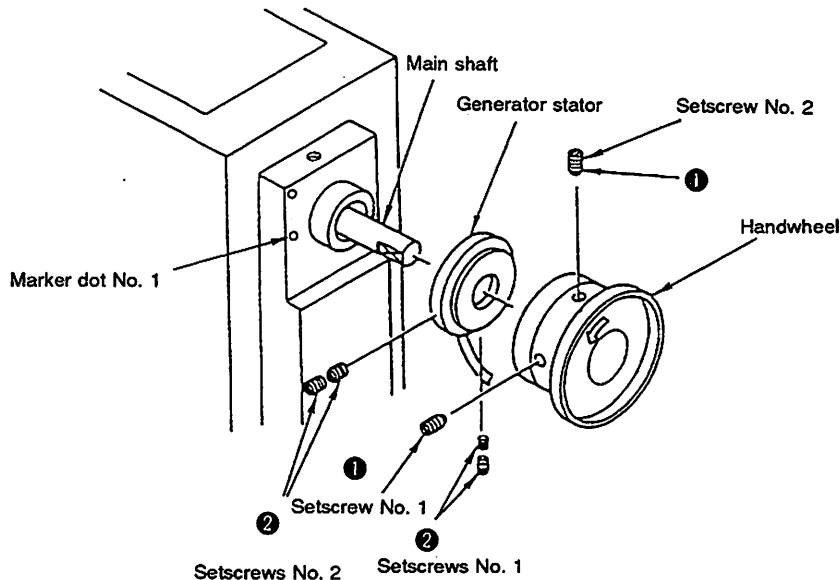

Fig. 5-43-1
- When installing the generator stator, be sure that setscrews No. 2 are aligned with marker dot No. 1 on the bracket (Fig. 5-43-1).